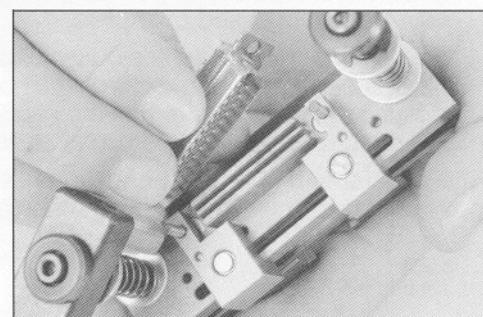

Fig. 4
4. Fix assembly head insert on the assembly head with two mounting screws provided with the tool. Adjust positioning pins on assembly head to match the connector mounting holes. (fig. 4)